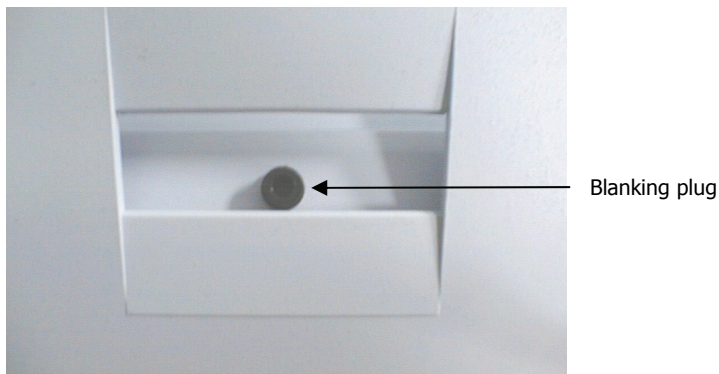

Figure 29 The blanking plug
3. Remove the blanking plug from the LS 55 sample area door, as shown in Figure 29.